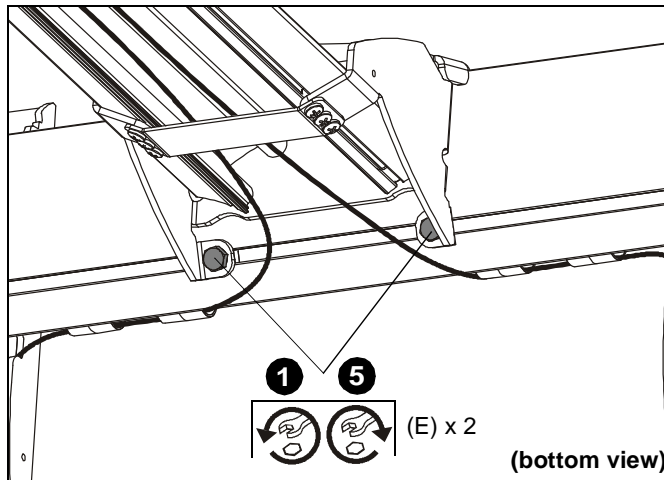

Figure 37
1. Loosen two 1/4-20 x 5/8" hex head cap screws (E) on underside of mounting bracket. (See Figure 37)
5. Tighten two 1/4-20 x 5/8" screws (E) on underside of mounting bracket. (See Figure 37)